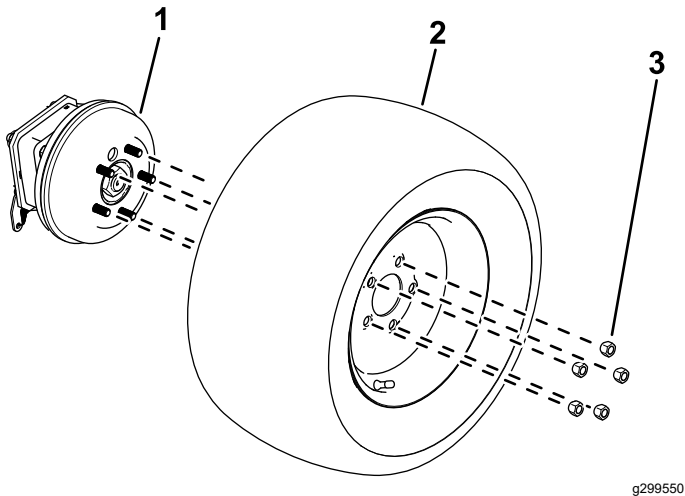

Figure 10
2. Loosen and remove the wheel lug nuts (Figure 10).
3. Removed the wheels from the wheel hubs (Figure 10).
1. Use the previously-removed lug nuts to secure the tires to the wheel hubs (Figure 10).